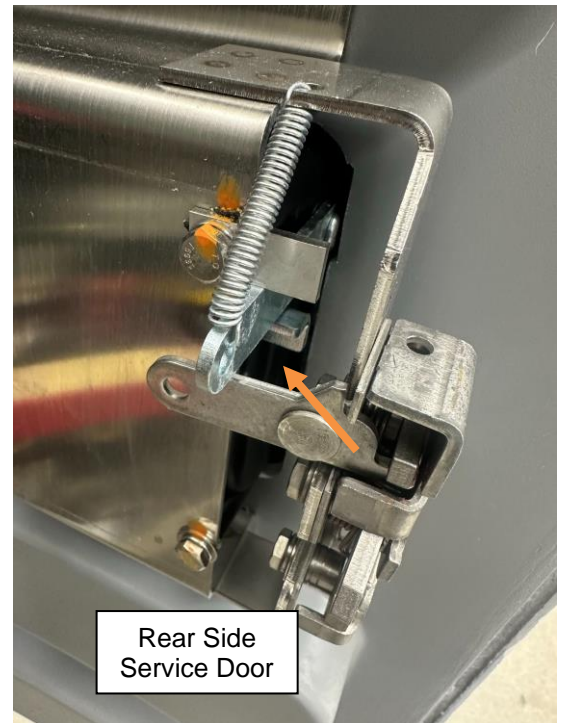

Figure 4: Adjusted Stopper Bracket with Link in Closed Position
9. In the fourth screw location, install the new handle lever arm stopper bracket (PN 1093572) then fasten in place using one new washer (PN 19-2-23), one new screw (PN 19-1-386). Make sure the position of the link is at closed position so that the position of the stopper could be adjusted, and it is not interfering with the link while locking the door. See Figure 4. Apply 1-2 drops of Loctite 243 (PN 23-02-0088) to the threads of the hardware and torque to 9-11 Ft/Lbs. Use a paint marker and apply a torque stripe.